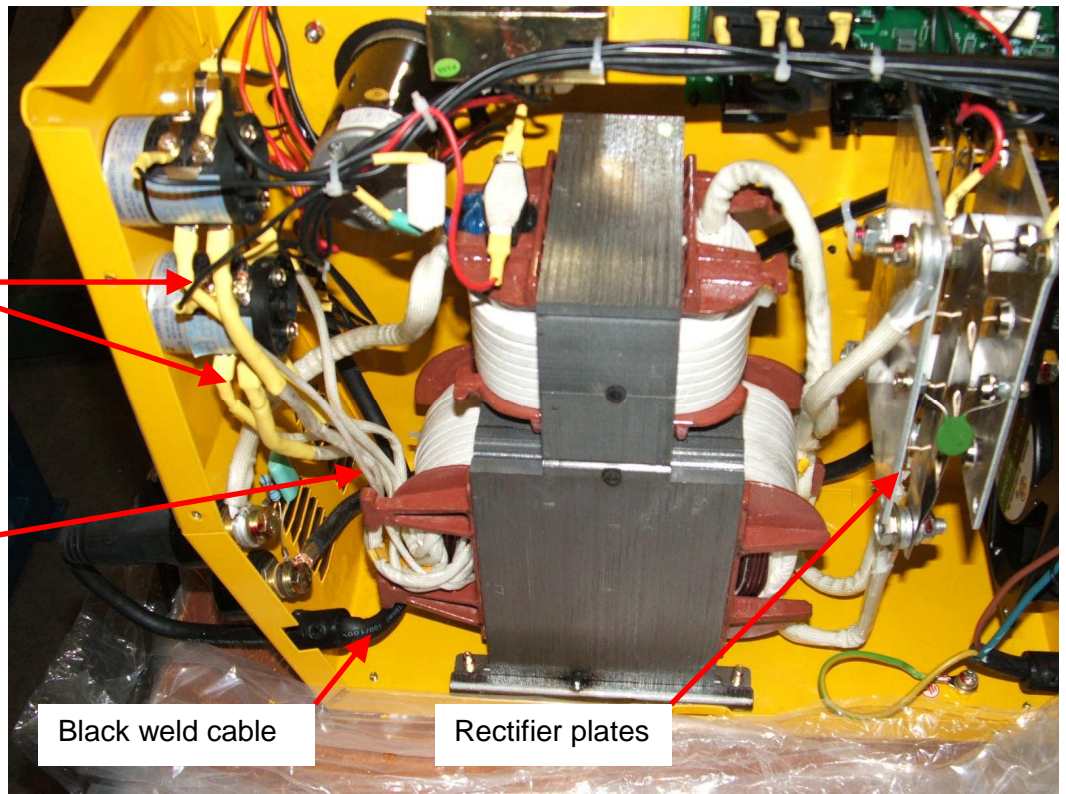

Fig 2
It is recommended that the wires are tucked in behind the plastic bobbin on the transformer, as shown in Fig 2. If this is done, there is no chance that they will come into contact with the machine panels. To achieve this:
3. Move the black weld cable down and to the rear as per Fig 2 (If not already in this position).
4. Move the primary wires one at a time to their new position as per Fig 2. Be careful that the ends of the cables (where they enter the switches) are not placed under excessive stress while doing this.
7. Check the clearance from other electrical items (including the rectifier plates shown in Fig 2) to the covers. A clearance of 10mm is required if there are no vents protruding at that particular place. Adjust mounting brackets to obtain correct clearance. Check that the rectifier plates have sufficient clearance to the heat sink on the wirefeed control pcb.